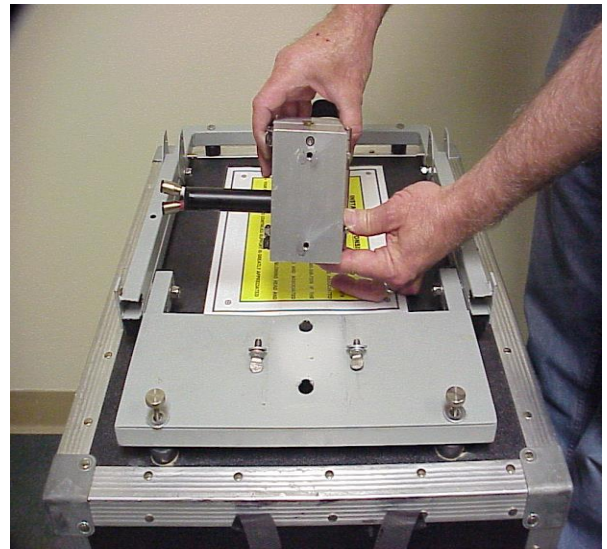

Figure 51
13.9.2 Use pliers or similar tool (Installer provided) to remove bolts and separate Blowing Head from Shelf. **See Fig. 51.**